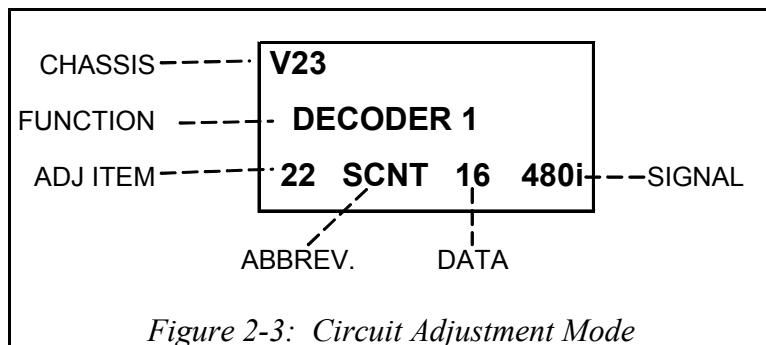

Figure 2-3: Circuit Adjustment Mode
3. Press the number buttons "0", "3", "5", "7" in sequence. The screen will change to the Circuit Adjustment Mode. See *Figure 2-3*.